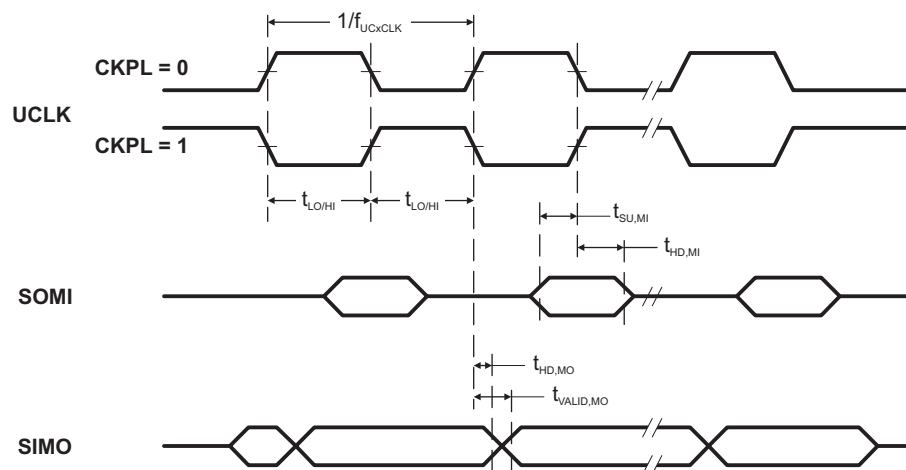
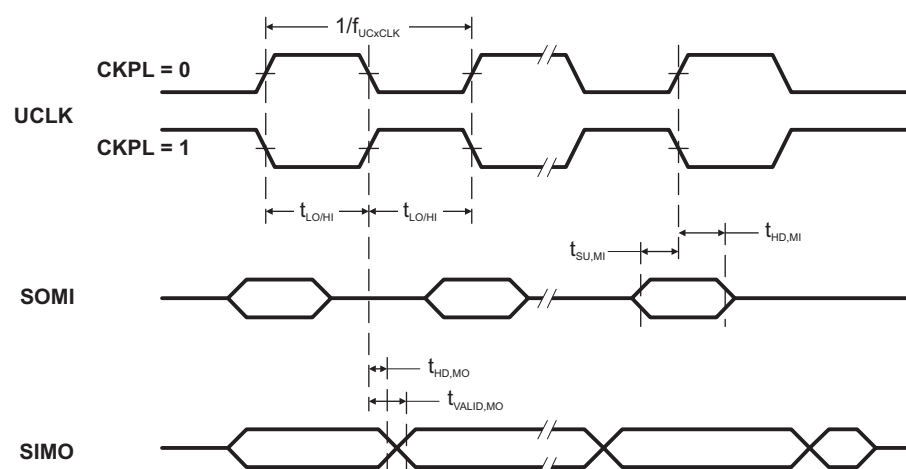

Figure 12. SPI Master Mode, CKPH = 0
Figure 13. SPI Master Mode, CKPH = 1
(see Note (1), Figure 12 and Figure 13)
(2) Specifies the time to drive the next valid data to the SIMO output after the output changing UCLK clock edge. See the timing diagrams in Figure 12 and Figure 13.
(3) Specifies how long data on the SIMO output is valid after the output changing UCLK clock edge. Negative values indicate that the data on the SIMO output can become invalid before the output changing clock edge observed on UCLK. See the timing diagrams in Figure 12 and Figure 13.
- (2) Specifies the time to drive the next valid data to the SOMI output after the output changing UCLK clock edge. See the timing diagrams in Figure 12 and Figure 13.
- (3) Specifies how long data on the SOMI output is valid after the output changing UCLK clock edge. See the timing diagrams in Figure 12 and Figure 13.